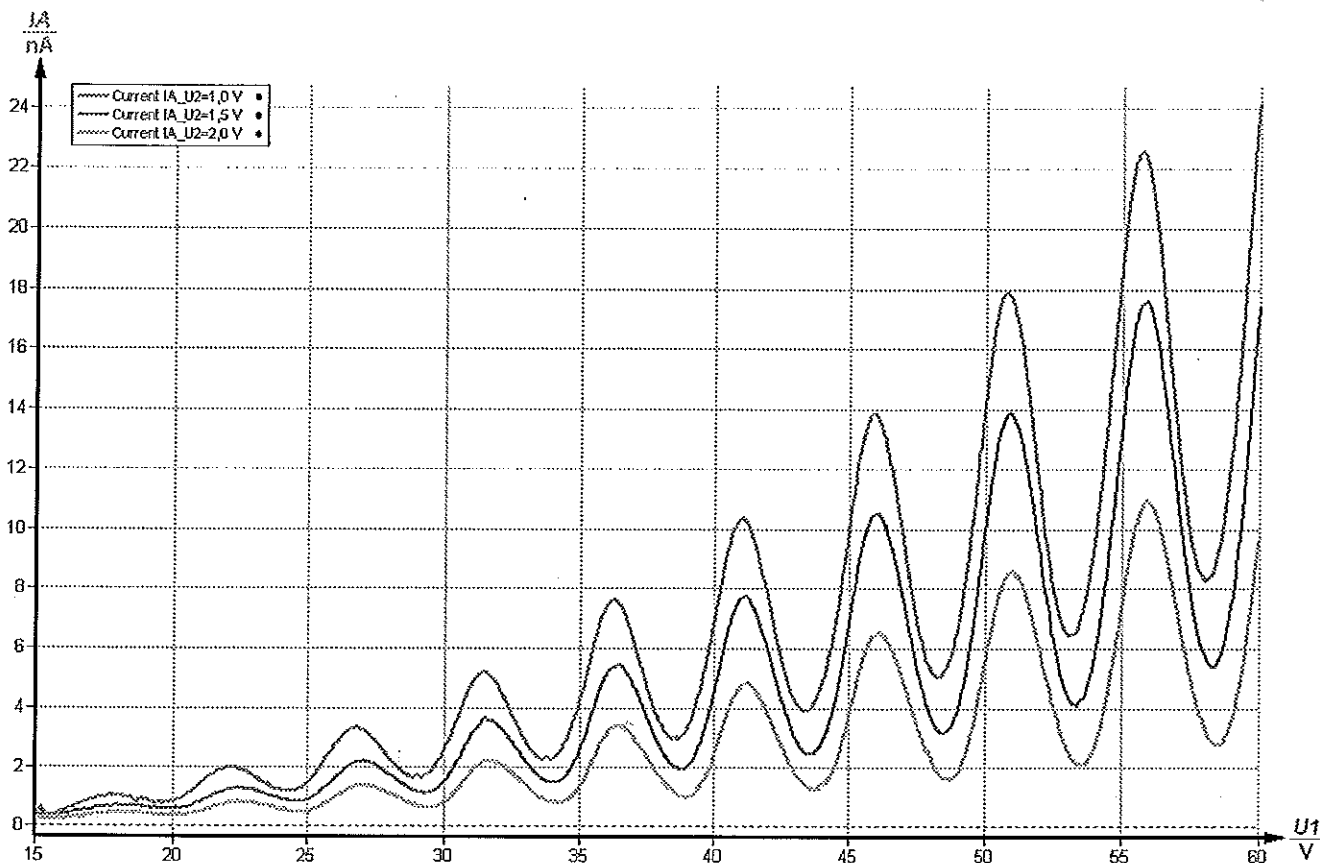

Fig. 9 Franck-Hertz-curve for Hg-tube and different counter voltages  $U_2$
C) The programme allows manual or automatic increase of the accelerating voltage. Fig. 9 shows three curves that were plotted at different counter voltages  $U_2$  ( $= 1\text{ V}$ ;  $1.5\text{ V}$ ;  $2\text{ V}$ ).